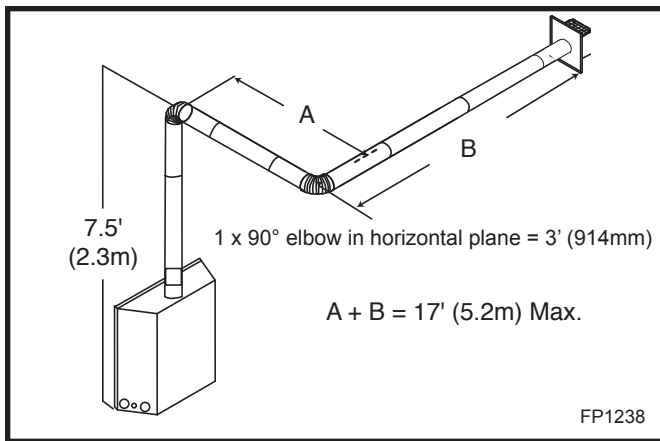

Fig. 19 Maximum vent run with elbows.
- The maximum number of 90° elbows per side wall installations is three (3).
- Example:** According to the chart the maximum vertical vent length in a system with a 7.5' (2.3 m) horizontal rise is 20' (6 m) and if a 90° is required in the horizontal vent it must be reduced to 17' (5.2 m). In Figure 19, Dimension A plus B must not be greater than 17' (5.2 m).
- The maximum number of 45° elbows permitted per installation is six (6). These elbows can be installed in either the vertical or horizontal run.